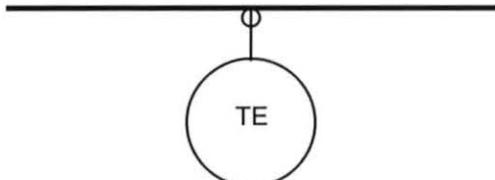

Figure 66. Sensing Element Symbol
2. Determine which type of temperature sensing element symbol is shown in figure 66.